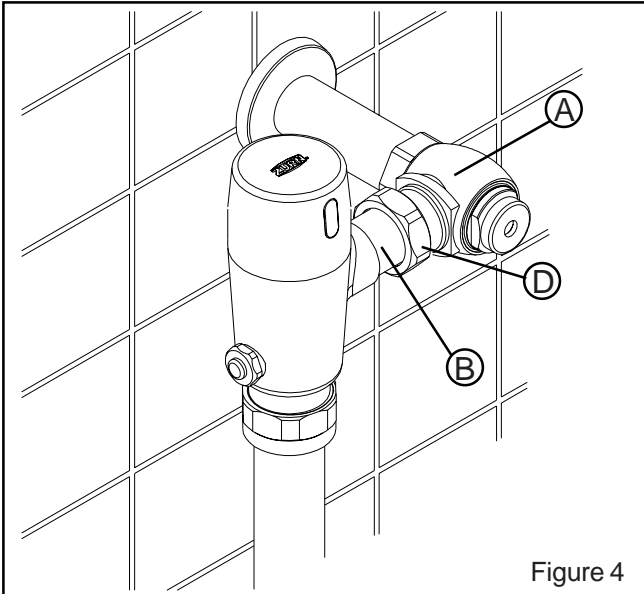

Figure 4
4.) Insert the flush valve tailpiece (B) into the stop valve (A) and hand tighten the lock nut (D) to the stop valve. Plumb the entire unit. **See Figure 4**